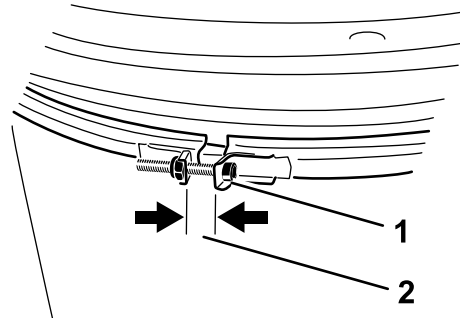

Figure 25
1. Check the nozzle clamp (Figure 25) daily to ensure that is tight.